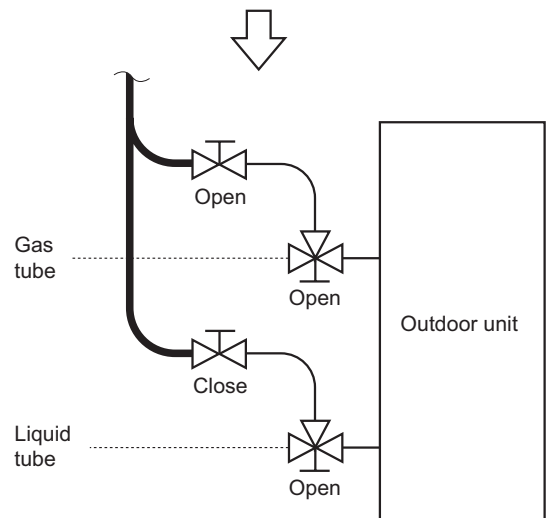

Fig. 2-30
- If the additional refrigerant charge amount cannot be charged at once, charge the remaining refrigerant in liquid form by using the gas tube service valve with the system in cooling operation mode at the time of test run. (Fig. 2-30)